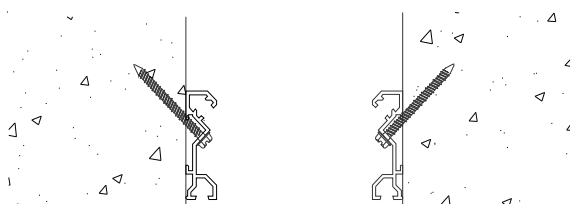

Figure 6
STEP 11. Repeat the procedures, as directed, in Step 5 through Step 10 for the corresponding opposite base member (see Figure 6).